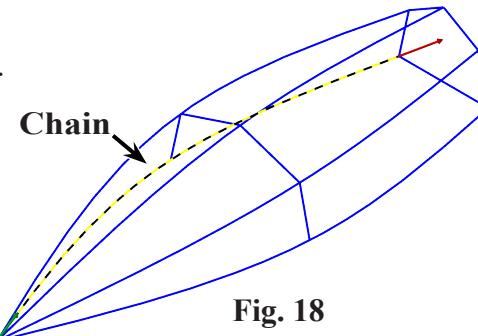

Fig. 18
Step 3. Click spline on bottom to define flat boundary 1, Fig. 18.